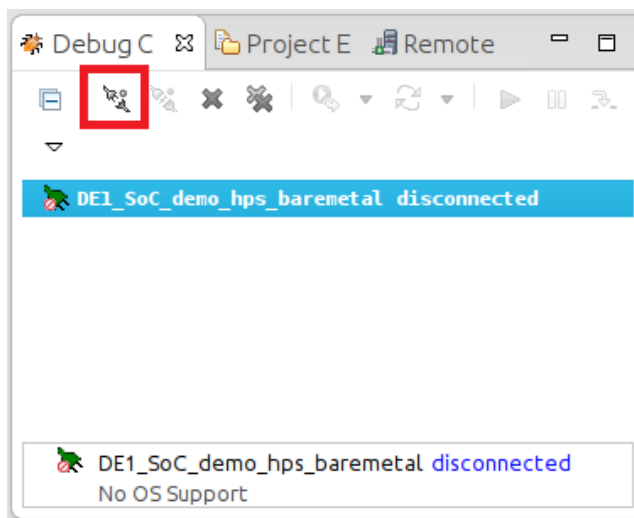

Figure 12-13. Debug Control View
21. In the “Debug Control” view, click on the “DE1\_SoC\_demo\_hps\_baremetal” entry, then click on the “Connect to Target” button, as shown on Figure 12-13. Our debug script will load and execute the preloader, then it will load and wait at our application’s “main()” function.